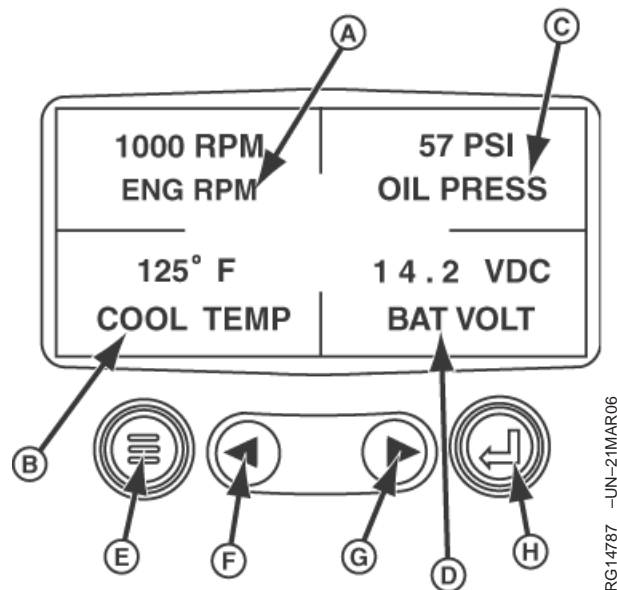

Figure 2. Normal Operation, Four-Parameter Display
- c. Once this item is highlighted, press the enter key (H). The four-parameter display (fig. 2) appears.